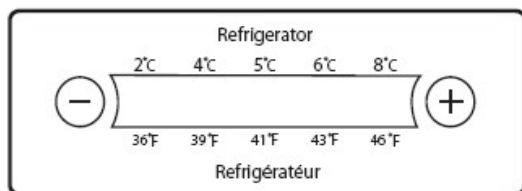

Fig.2.
- 7) Remove hole plugs from left side and move them to opposite side (see **Figure 2** on following page).
- There is a temperature digital display panel in the fresh compartment (See Fig.2.). Digits in the upper line are celsius temperature, while digits in the bottom line are fahrenheit.